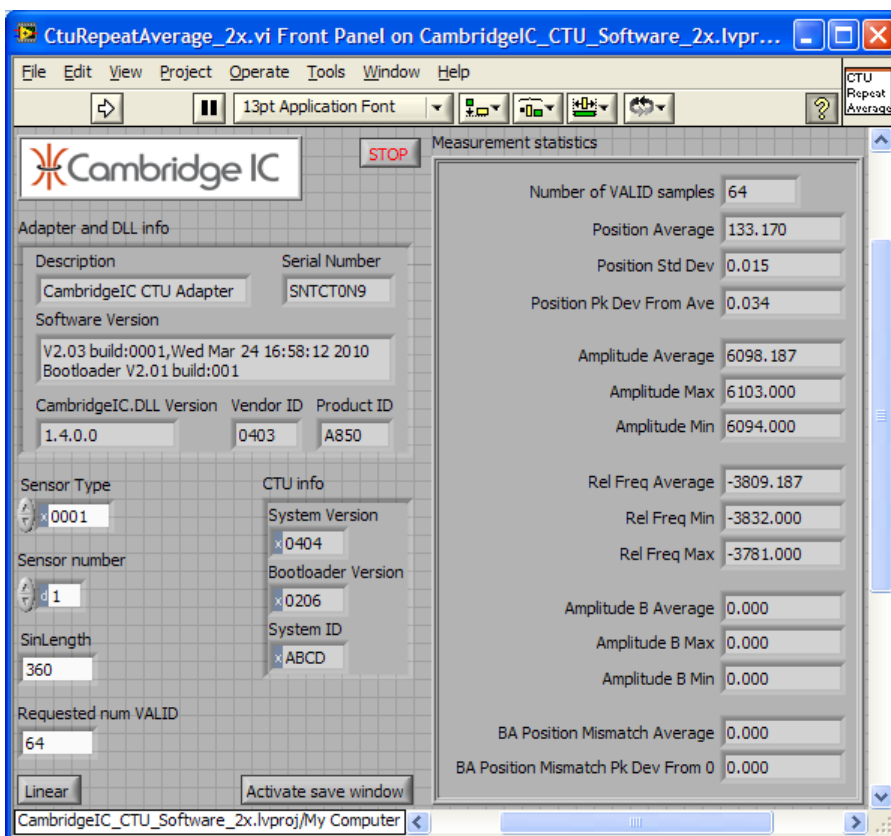
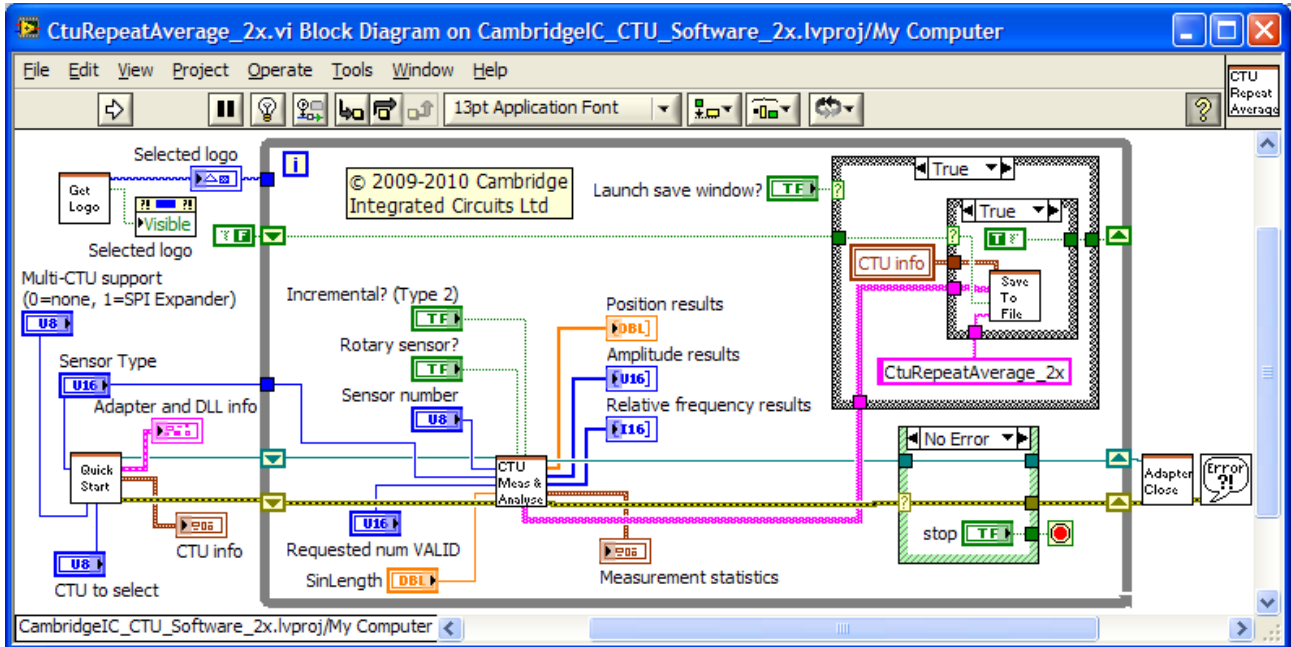

Figure 6 CTU Repeat Average front panel
Figure 7 CTU Repeat Average block diagram
*CtuMeasureAndAnalyse* is called by *CtuRepeatAverage*, whose front panel is illustrated in Figure 6 and the block diagram in Figure 7. The design is similar to *CtuSimpleMeasureType1* described in section 3, and the description below highlights only the main differences.
*CtuMeasureAndAnalyse* also outputs individual processed measurements in the form of arrays, once point for each CTU measurement: **Position results**, **Amplitude results** and **Relative frequency results**. The indicators are hidden on the block diagram of Figure 6, but visible on the block diagram of Figure 7. Note that the time interval between individual measurements can be highly variable since it is based on PC timings.